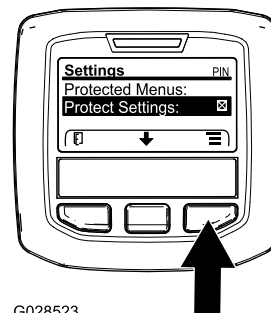

Figure 48
1. From the MAIN MENU, use the center button to scroll down to the SETTINGS MENU and press the right button (Figure 48).